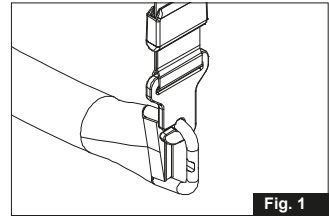

Fig. 1
1. Start with the installation of the GH3 lifting beam. Place the lifting strap hook in the eye of the GH3 lifting beam, one on each side (Fig. 1 and 2).